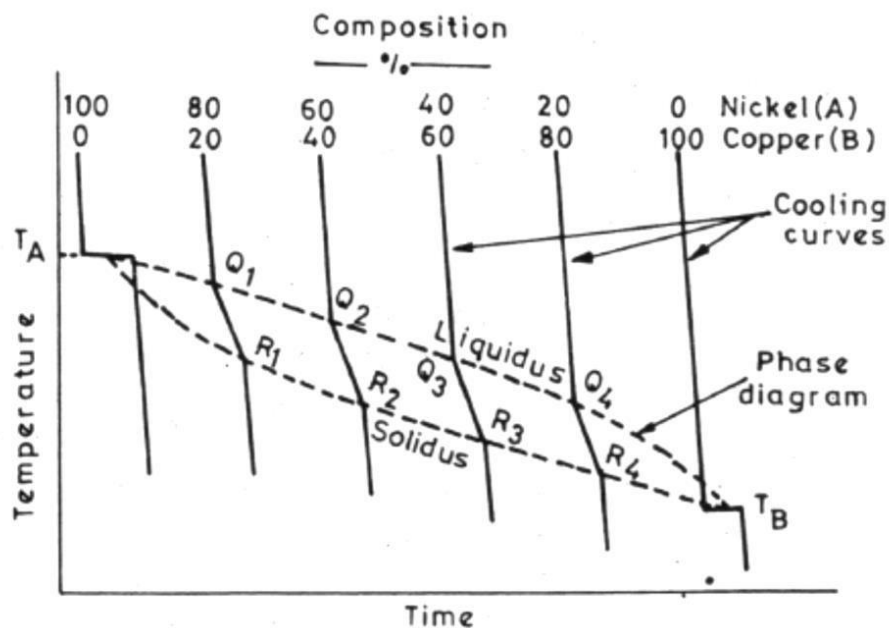

Fig.4.2 - Series of cooling curves giving rise to a phase diagram
- ▶ Fig 4.2 shows a series of cooling curves for different alloys in a completely soluble system (such as Cu-Ni system).
- ▶ If two metals of a binary solid solution (such as Cu-Ni) system are mixed in various proportions, melted and then cooled, and a cooling curve is constructed for each composition Fig .4.2 the resulting diagram obtain joining Q₁, Q₂, Q₃...and R₁, R₂, R₃...will be the phase diagram.